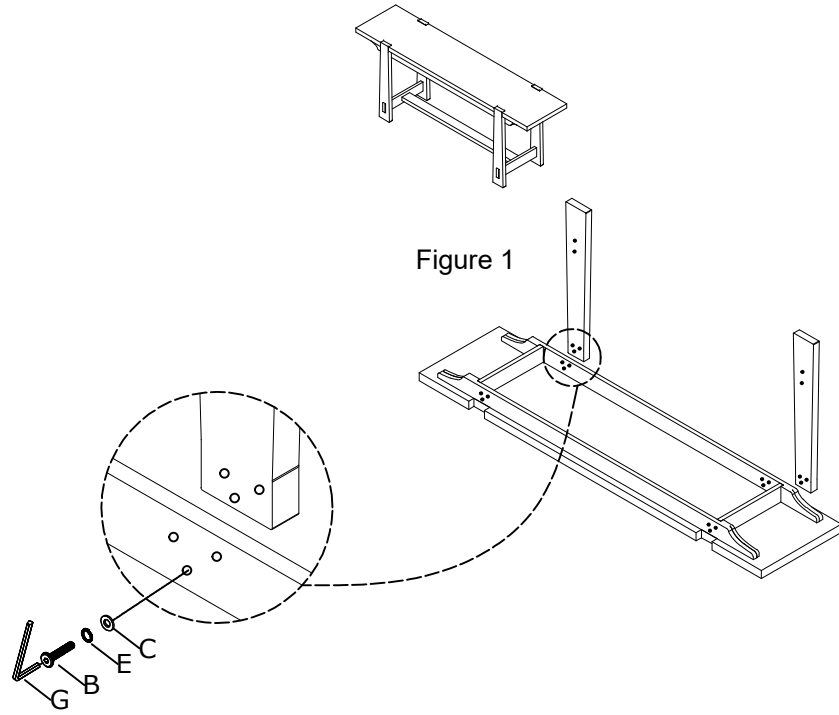

Figure 1
1. Turn the table top upside down on to a clean soft surface. Attach legs to the table top with Bolt (B), Lock Washer (E), Flat Washer (C) by Allen Wrench (G) as shown in Figure 1.
1. Turn the table top upside down on to a clean soft surface. Attach legs to the table top with Bolt (B), Lock Washer (E), Flat Washer (C) by Allen Wrench (G) as shown in Figure 1